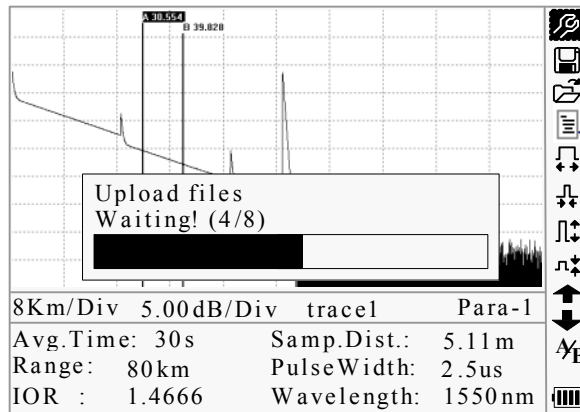

Figure 4-7. Upload Saved Traces
- Power on AD20S OTDR, and upload data with the software. The whole process is as in Figure 4-7.